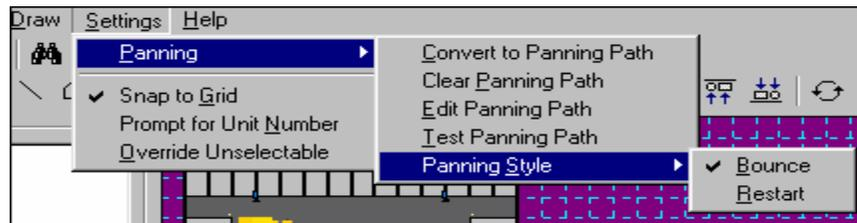

Figure 40
8. After you select 'Convert to Panning Path', you need to decide if the panning is to Restart from the beginning or Bounce from the end of the path and pan back to the beginning. These options are under 'Settings>Panning>Panning Style', and then click on either Restart or Bounce (Figure 40).